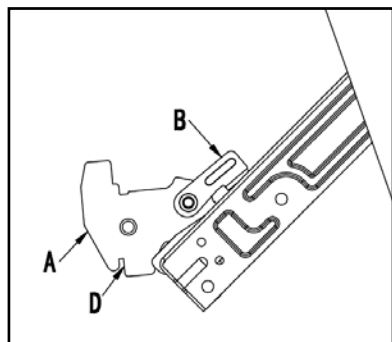

Fig 1
- Open the door completely and lift the 2 levers "B" (Fig.1);